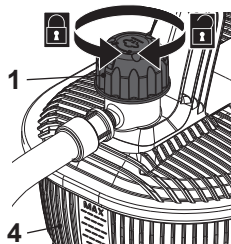

Fig. 7
- > Unscrew the safety cap (1) in an anti-clockwise direction and remove it from the water tank (4) (Fig. 7).